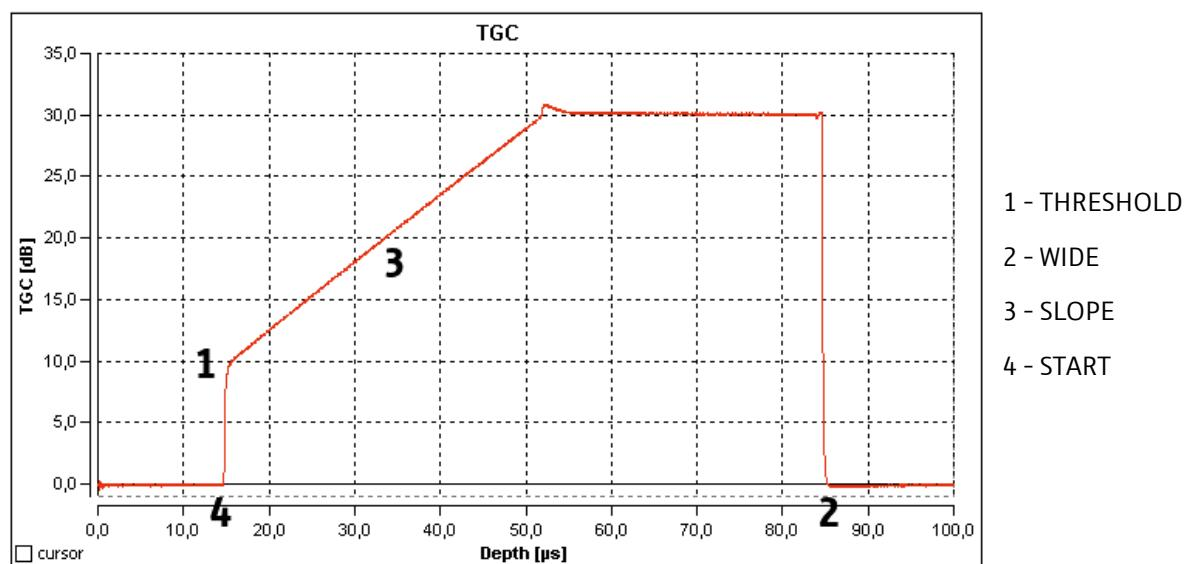

Fig. 3: Diagram with TGC curve (GS-EchoView).
*The GS-EchoView measuring and control software provides a separate diagram window that displays the TGC in the form of a curve (figure 3). The TGC diagram is always available parallel with the A-scan diagram in all program modes.*